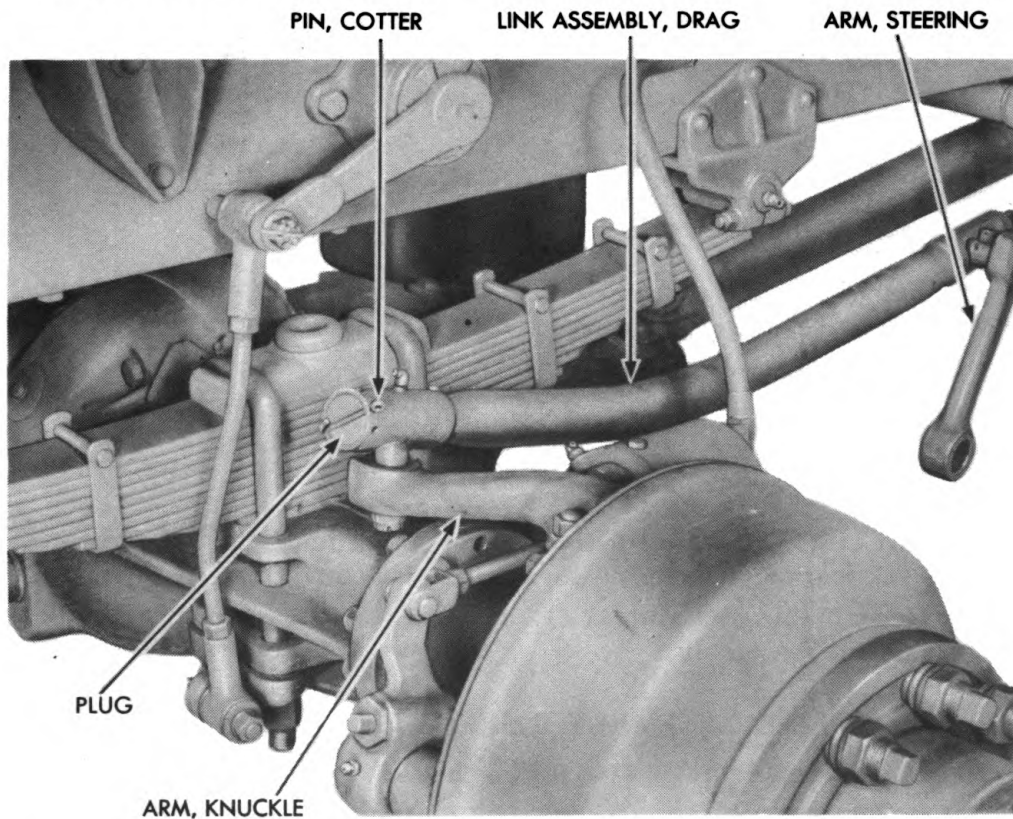
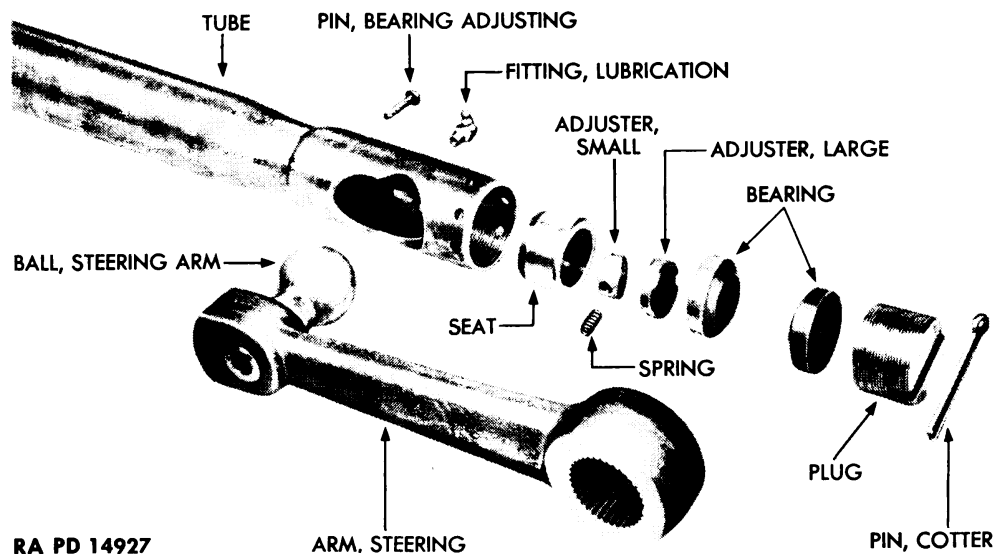

Figure 96—Drag Link Assembly
Figure 97—Drag Link—Exploded View
(1) REMOVE DRAG LINK ASSEMBLY. Mark position of steering arm on the lever shaft (par. 202). Disconnect steering arm from lever shaft (par. 202 b (1)).
(2) Remove cotter pin at (front axle left knuckle arm) end of drag link assembly (pliers) (fig. 96). Loosen plug in end of drag link tube (screwdriver). Remove drag link assembly from left knuckle arm.
(2) DISASSEMBLE TUBE (fig. 97).
(1) Install seat (fig. 97) in tube.
(2) Install bearing adjusting pin in tube (screwdriver). Install spring in small adjuster.
b. Procedure. Install one bearing in drag link (fig. 97). Install drag link assembly on left knuckle arm (fig. 96). Then install second bearing and plug (screwdriver). Install steering arm on lever shaft (par. 207 b (3)).